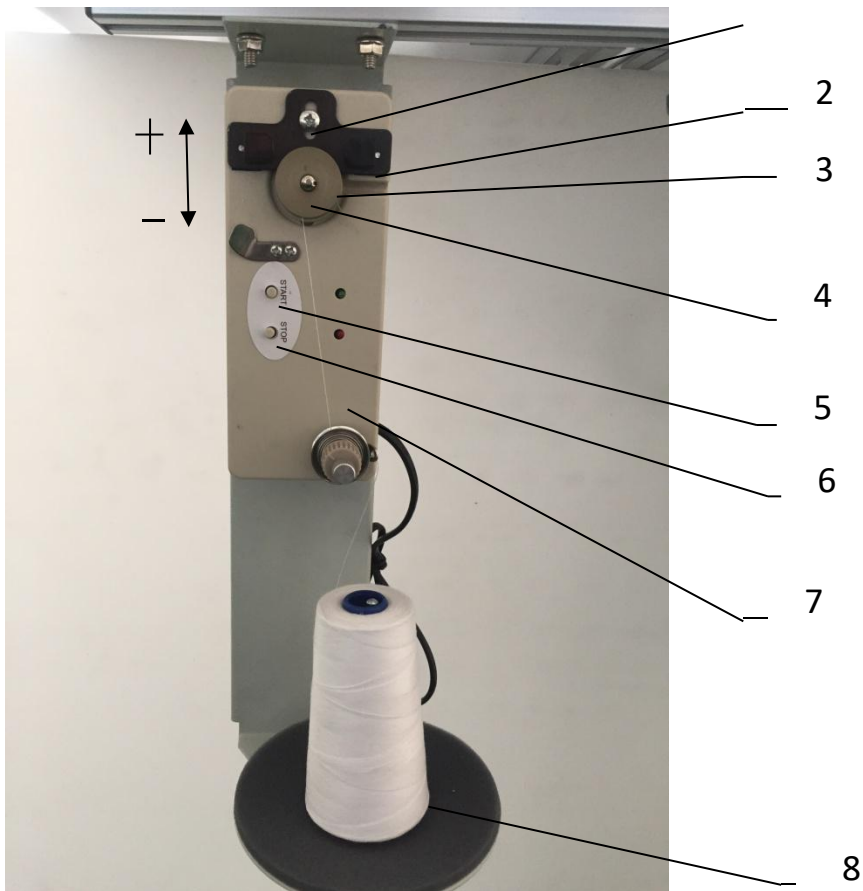

Fig 7
- Wire ball 8 is placed on the wire axis as shown in figure 7.
2.3 Adjustment of bobbin winding volume (figure 7)
When the wire is wound or shaped as shown in fig.8.1 loosen the screw 7 in fig.7 and move the part 4 up and down in fig.7 to make the wound core wire as shown in fig.8.1.